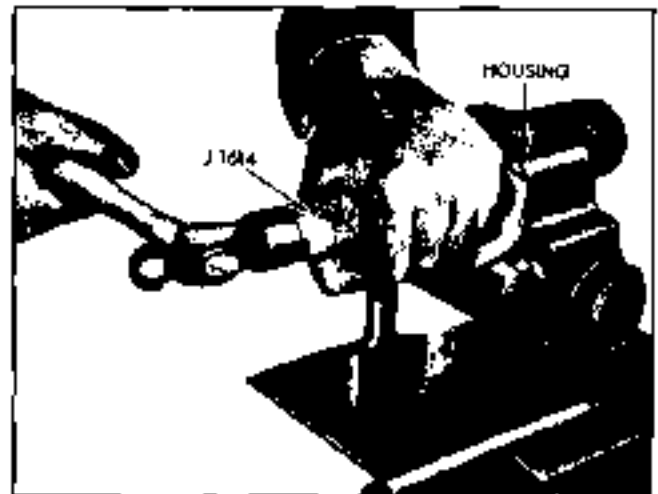

Fig. 9-51 Removing Pitman Shaft Bushing
2. Drive out bushing with tool J 1614 (Fig. 9-51)